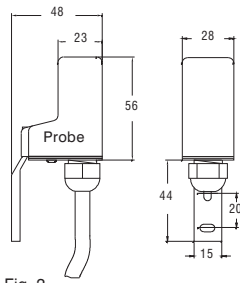

Fig. 4
- Panel mounting with Kit (to be ordered) (fig. 4)